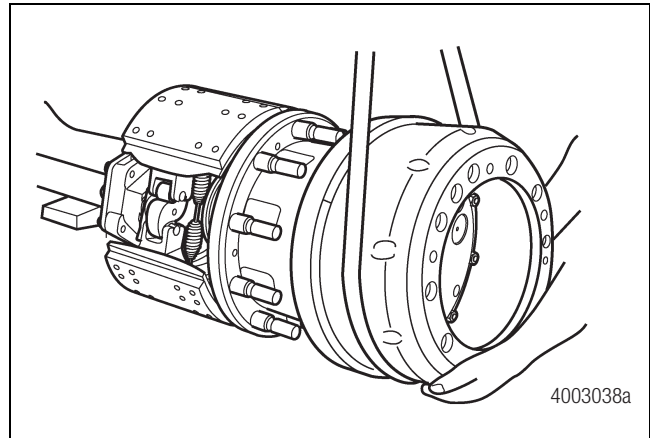

Figure 3.53
10. Use a lifting device to install the brake drum. When you install hub piloted drums, always install the drum with the pilot in the 12 o'clock position to reduce assembly runout and minimize the possibility of a system vibration. Use a 16 mm socket and wrench to install the five cap screws and tighten them to 44-55 lb-ft (60-70 N•m). Figure 3.53.